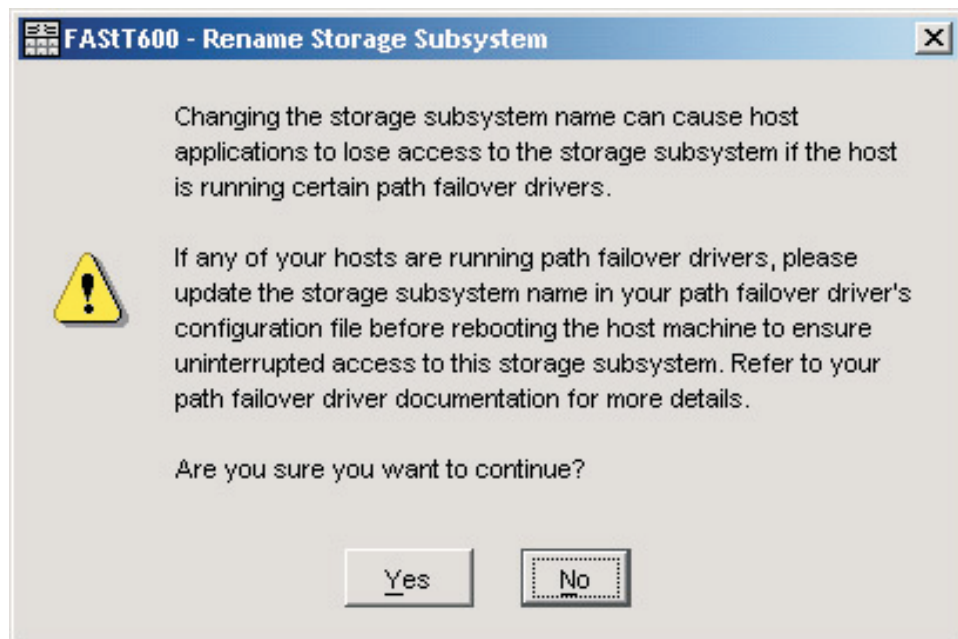

Figure 24. Rename Storage Subsystem window
1. In the Enterprise Management window, Right-click the storage subsystem and select **Rename**. The Rename Storage Subsystem window opens as shown in Figure 24.